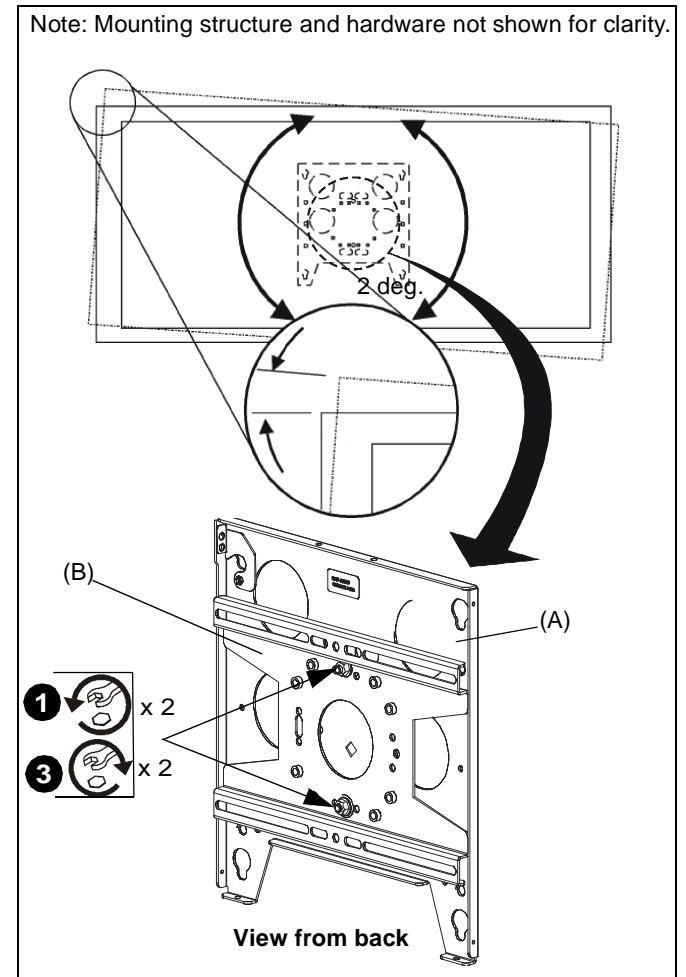

Figure 13
1. Loosen the two roll adjustment nuts in upper and lower center holes of truss plate. (See Figure 13)
3. Tighten the two roll adjustment nuts. (See Figure 13)